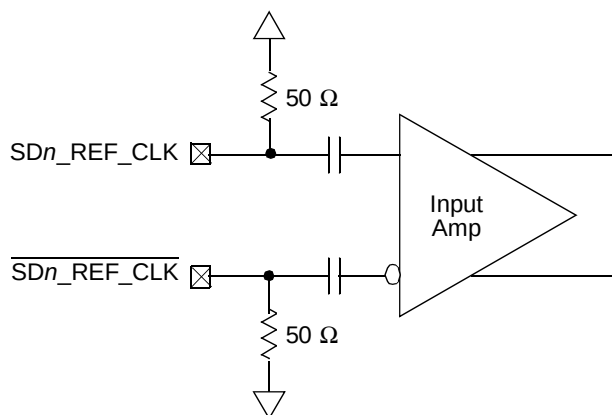

Figure 46. Receiver of SerDes Reference Clocks
- The `SD_REF_CLK` and `SD_REF_CLK` are internally AC-coupled differential inputs as shown in Figure 46. Each differential clock input (`SD_REF_CLK` or `SD_REF_CLK`) has a 50- Ω termination to `SGND_SRDS` followed by on-chip AC-coupling.